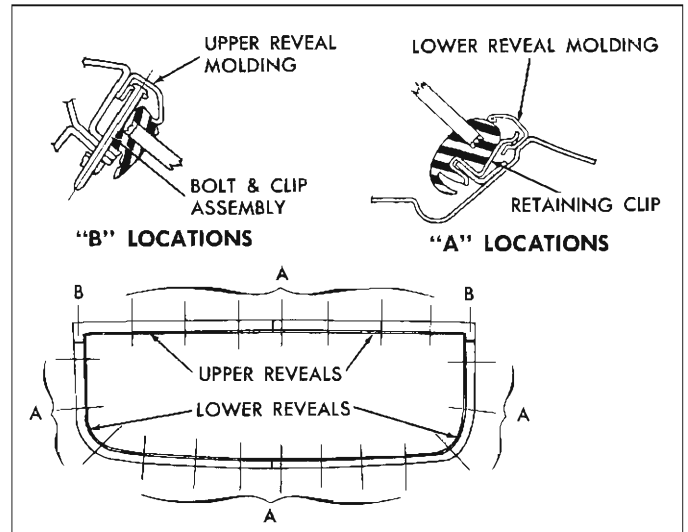

Fig. 29—Back Window Reveal Moldings—all "11" and "69" Styles
**Upper Reveal Molding (Fig. 29)**
**Lower Reveal Molding (Fig. 29)**
**Side Reveal Molding (Fig. 29)